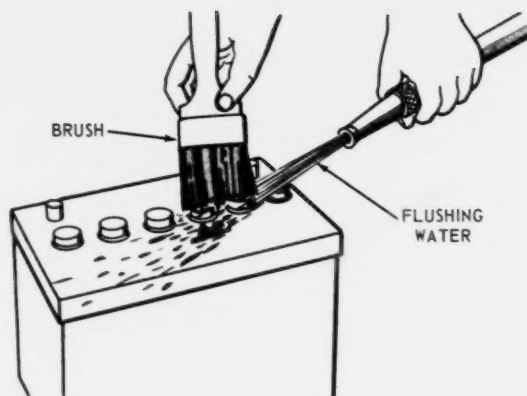

Fig. 25—Flushing Off Top Of Battery
8. Flush off residue with clean water (Fig. 25). Protect battery caps from direct stream of water to avoid